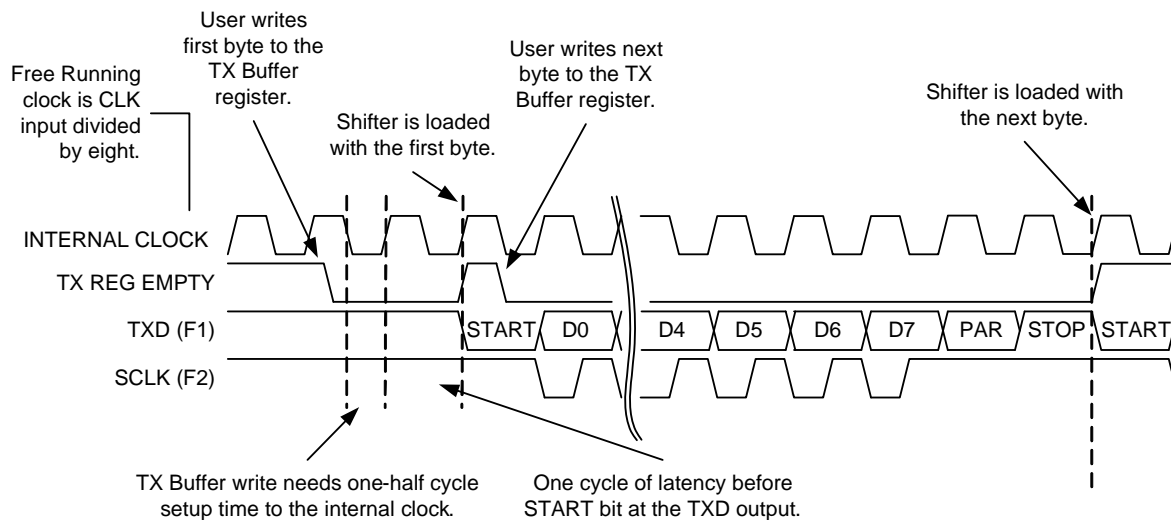

Figure 17-24. Typical Transmitter Timing
**Transmit Operation.** Transmission is initiated with a write to the TX Buffer register (DR1). The CPU write to this register is required to have one-half bit clock setup time for the data, to be recognized at the next positive internal bit clock edge. As shown in Figure 17-24, once the setup time is met, there is one clock of latency until the data is loaded into the shifter and the START bit is generated to the TXD (primary) output.